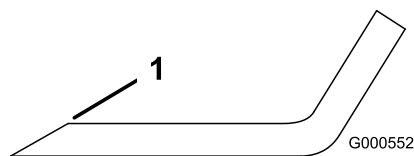

Figure 60
1. Use a file to sharpen the cutting edge at both ends of the blade (Figure 60).
Note: If the blade is not balanced, file some metal off the end of the sail area only (Figure 60).